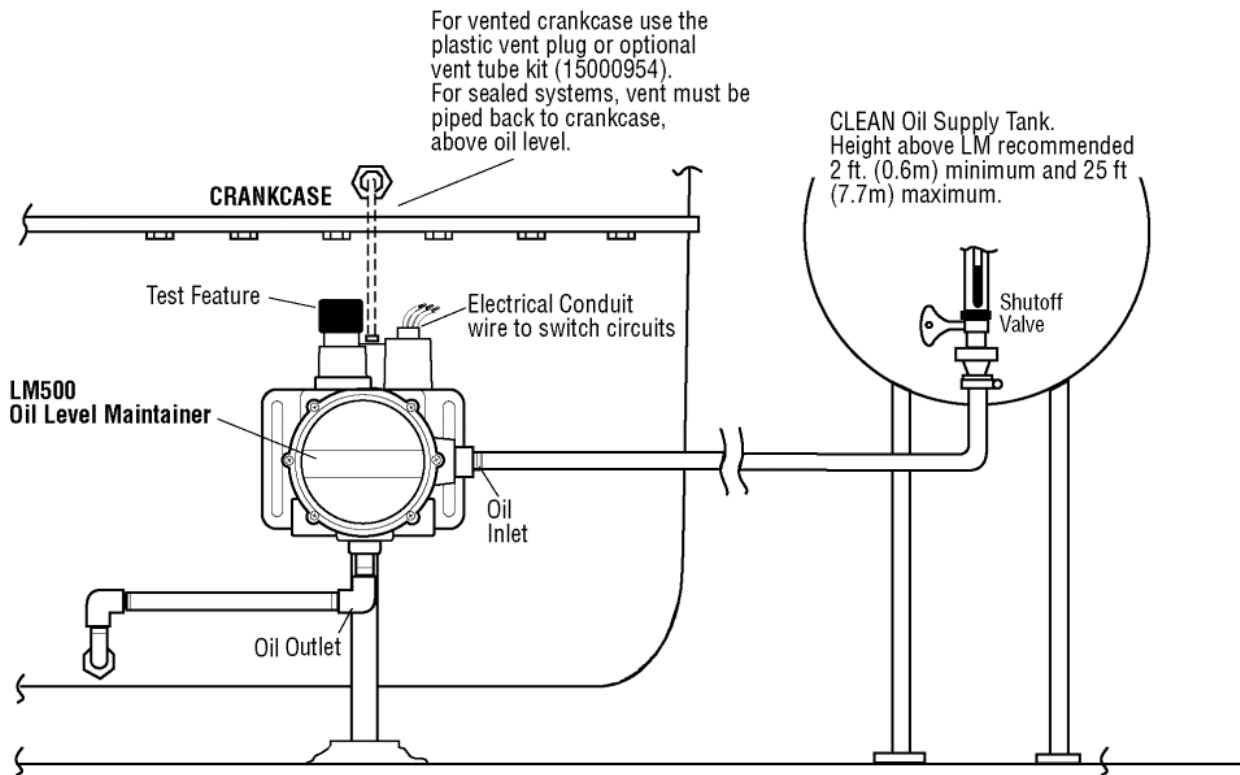

Figure 7
2. Connect a 1/2 in I.D. (13 mm) or larger hose to the oil inlet fitting on the LM500 and to the shutoff valve on the oil supply tank. See Figure 7. Recommended minimum height above the LM500 is 2 ft. (0.6); maximum 25ft (7.7 mm). The hose must maintain a downward slope and not have low spots or droops. Maximum head pressure rating is 9.50 psi or 25 ft. oil (head pressure).